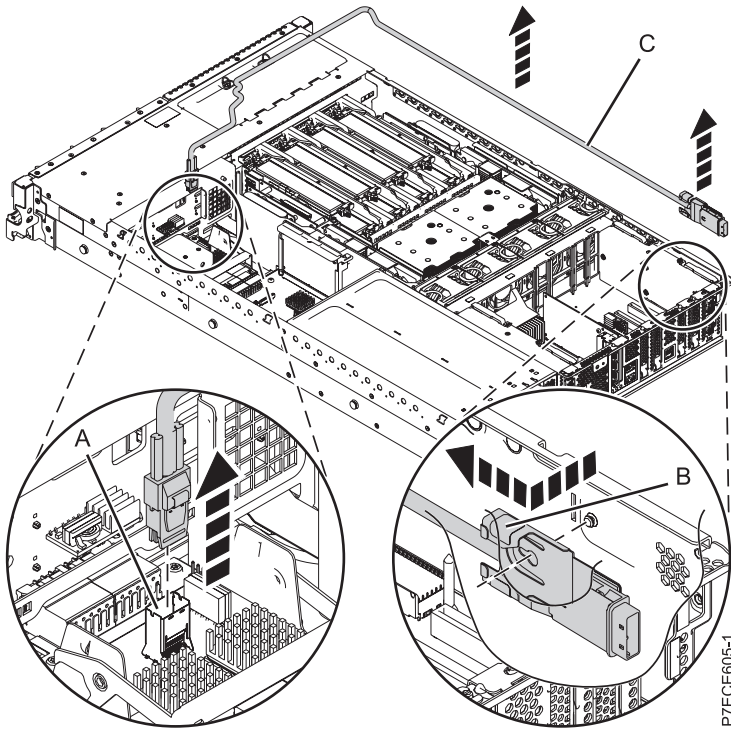

Figure 39. Removing the external SAS port
- 1) Press the side tab **(B)** and pull out the SAS shroud from the external SAS connection port on the disk drive backplane. See Figure 39 on page 54.